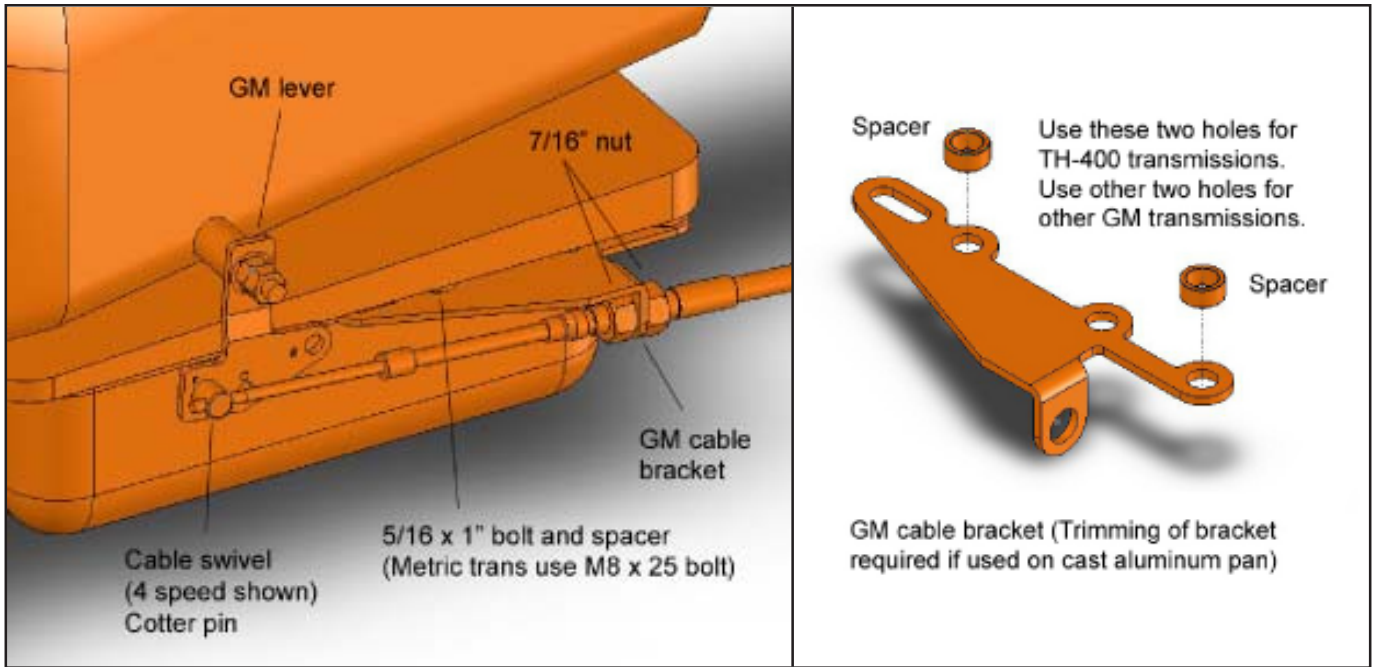

Figure 4
STEP 8. If you have not already done so, remove the stock selector lever nut and the selector lever from the transmission. Discard the stock lever and the stock shifter linkage. Install the **B&M** selector lever in position using the stock selector lever nut (**See Figure 4**). Torque nut to 23 lb. ft. The lever should move smoothly from front to rear with a positive click in each gear position.
STEP 9. Remove the two transmission oil pan bolts from the middle of the left side of the oil pan. Install the cable bracket in position (**See Figure 4**). The bracket must be installed with two spacers between the pan and the bracket. (If your transmission is equipped with a cast aluminum oil pan, these spacers should be omitted however the cable bracket may have to be modified). Install the two supplied 5/16-18 x 1.00" bolts and tighten to 12-13 lb. ft. Do not overtighten as this can damage the pan gasket.